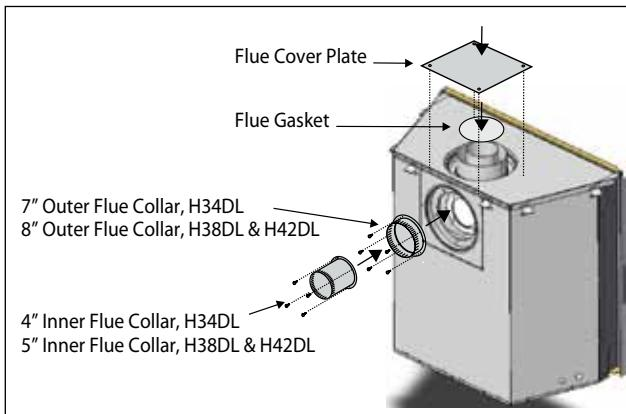

Figure 9a. Flue cover and collar installation, **Rear Vented** fireplace.
3. Install the (removed) Rear flue cover and gasket material, to the Top vent outlet. Fasten the cover with included hardware, as illustrated **Figure 9a**.
4. Install the (4/5" and 7/8") collars to the rear vent outlet using the included hardware, as illustrated **Figure 9a**.